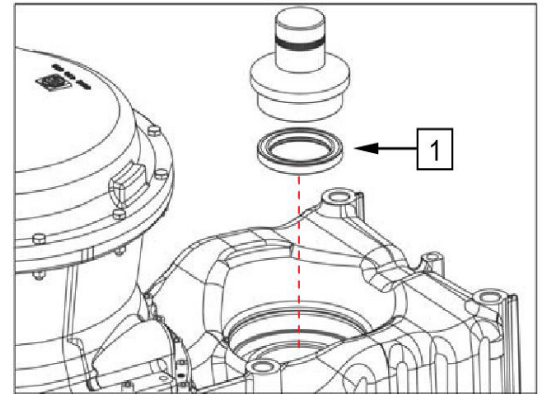

Figure 698
Install shaft seal 85x120x12 (1) by means of the driver tool with sealing lip showing to the oil sump (see Figure 698)